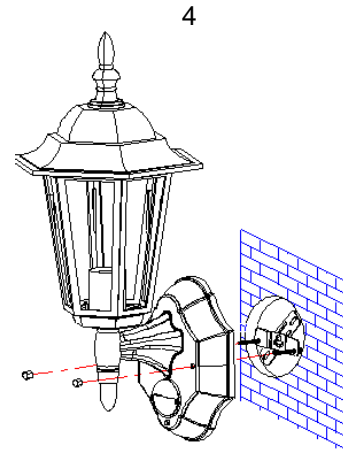

FIGURE 11
- (5) Place the front cover and secure it with the two screws provided (FIGURE 11).